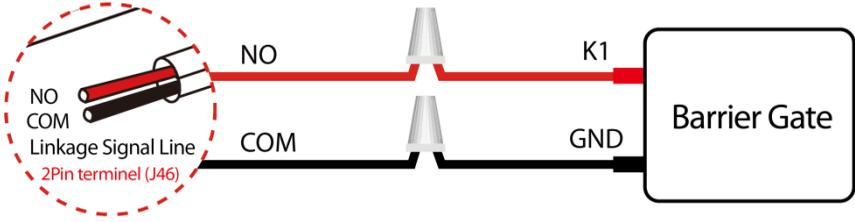

Figure 3-8
Step 8: The User can connect the linkage signal line with the barrier gate according to the needs to realize the linkage function of the Walk Through Metal Detector and the barrier gate. The wiring circuit diagram is shown in the figure 3-8 below.